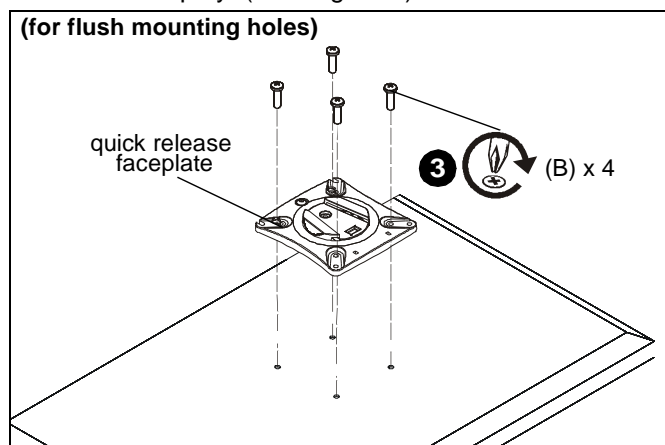

Figure 7
- Using Phillips screwdriver, carefully install four M4x14mm screws (B) through corresponding holes on faceplate and into the mounting holes on the display. (See Figure 7)